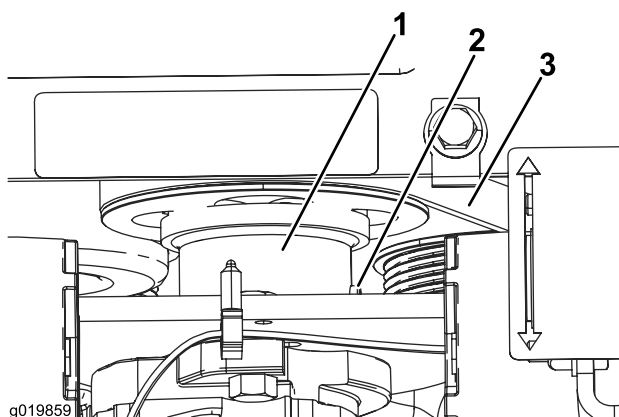

**Figure 52**
5. Loosen the set screw on the pump drive coupler (Figure 52).
6. Drop the coupler down away from the pulley (Figure 52).